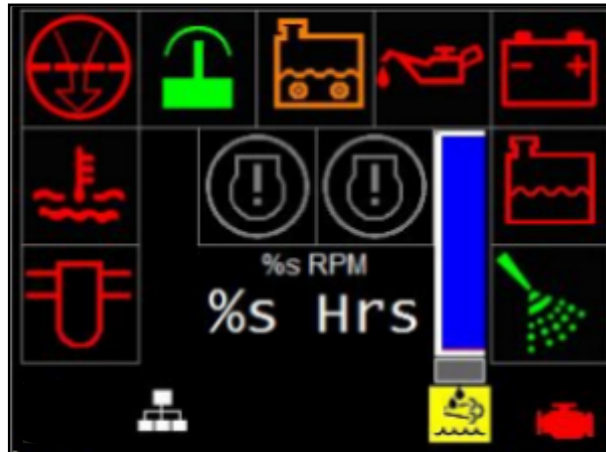

Figure 7.3 - Home Screen (No Faults)
- » The home screen will be displayed on the control panel display screen, Ref: Figure 7.3. The indicator lamps in the centre of the screen will illuminate and extinguish after two seconds if there are no faults present. If the indicator lamps do not extinguish, refer to section 7.4(3) for more information. The e-stop healthy and fuel on symbols only should light up green. Do not start the engine if any other lights are illuminated red or if there are any other faults shown on the display screen.